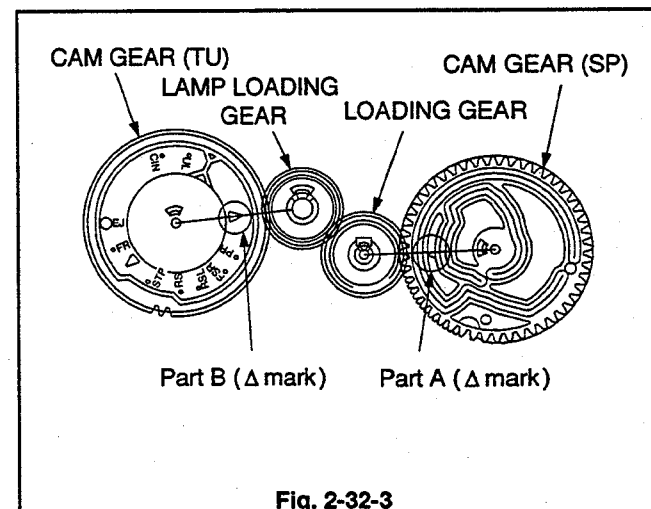

Fig. 2-32-3
2. Set the CAM GEAR (TU), shown in Fig. 2-32-3 so that the Δ mark on the Part B points to the centre of the LAMP LOADING GEAR.
3. Set the CAM GEAR (SP), shown in Fig. 2-32-3 so that the Δ mark on the Part A points to the centre of the boss for the LOADING GEAR.